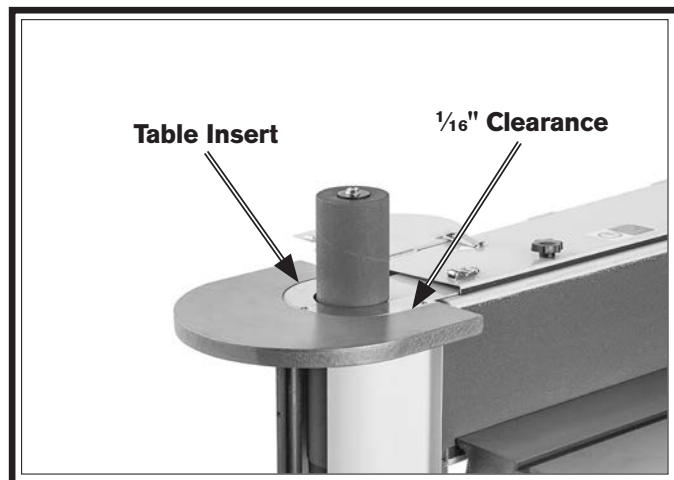

Figure 60. Table insert with less than $\frac{1}{16}$ " clearance.
4. Install smallest table insert that fits around sanding drum or roller to keep clearance gap equal to or less than $\frac{1}{16}$ " (see **Figure 60** and **Installing Sanding Drum** on **Page 32** for more information).